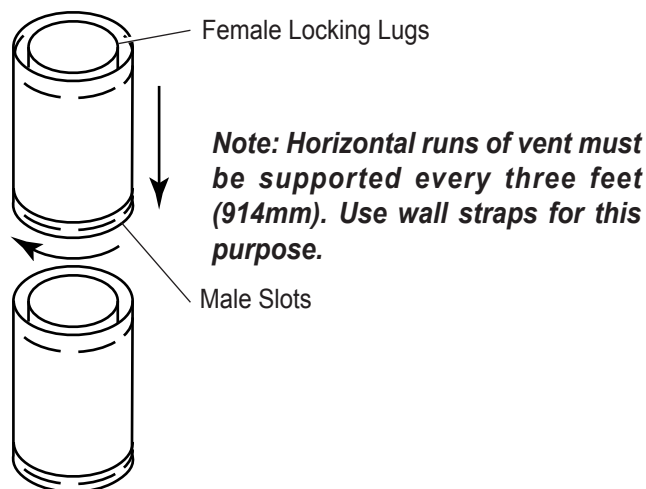

Figure 13 - Rigid Vent Pipe Connections
Twist-lock Procedure: The female ends of the pipes and fittings have three locking lugs (indentations). These lugs will slide straight into matching slots on the male end of adjacent pipes and fittings. Push the pipe sections together and twist one section clockwise approximately one-quarter turn until the sections are fully locked. See *Figure 13*.
2. Assemble the desired lengths of pipe and elbows necessary to reach from the burner system flue up through the firestop. Be sure pipe and elbow connections are fully twist-locked. See *Figure 13*, page 17.